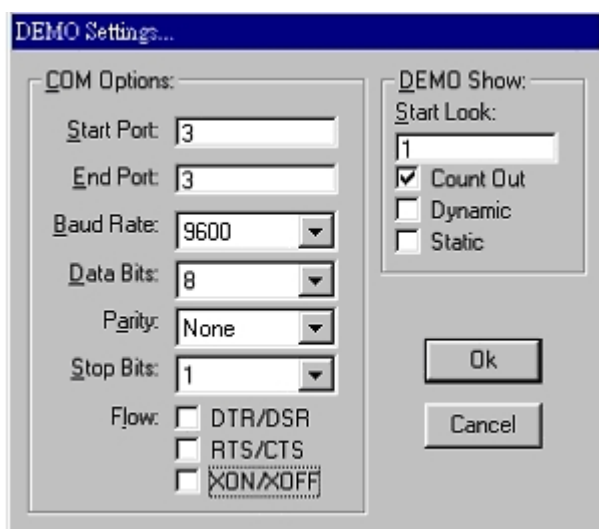

Fig.6
**Step2.**Click the “Setting” to set the RS-422 loop counter (See the Figure 6); your system will detect the COM3.